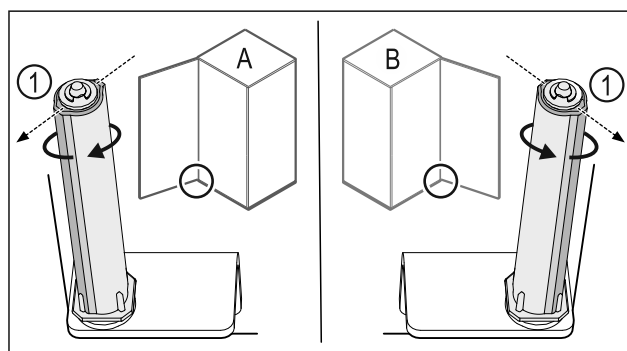

Fig. 23 Left-hinged (A) / Right-hinged (B)
- Turn the closing system against the resistance until the bar of the closing system Fig. 23 (1) points outwards.